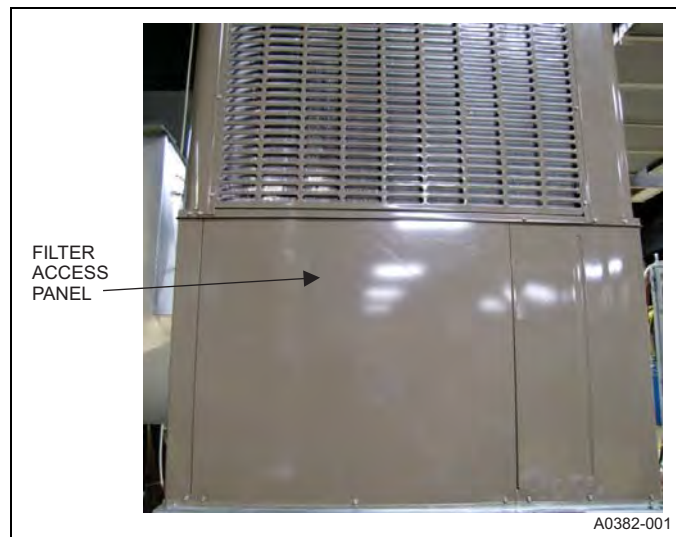

FIGURE 2: Filter Access Panel
2. Remove filter access panel from unit. See Figures 2 and 9.
11. Install filter access panel on unit. See Figures 2 and 9.
2. Remove the horizontal duct cover from the back of the unit. See Figures 2 and 9.